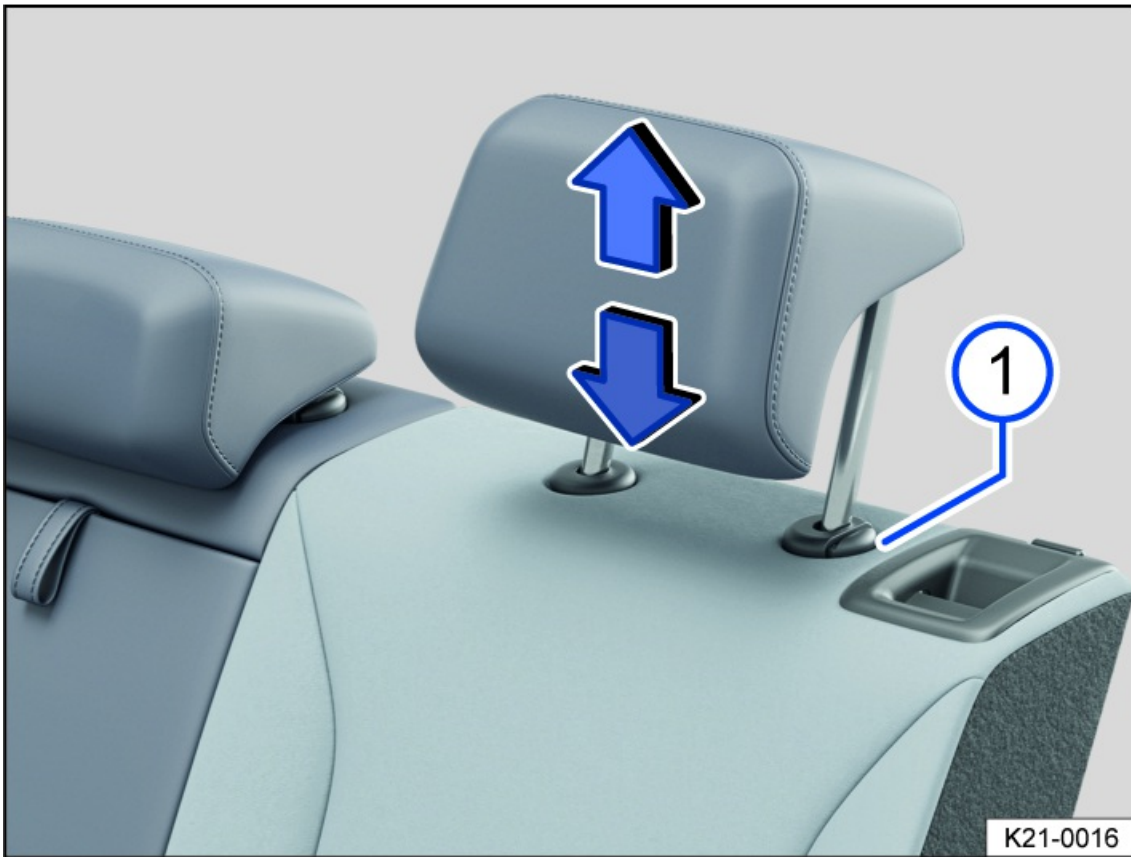

Fig. 69 Removing the head restraint on the second-row seats (general example).
3. Pull the head restraint all the way out while pressing the *fig. 69* button.
3. Push the head restraint downward while pressing the *fig. 69* button.